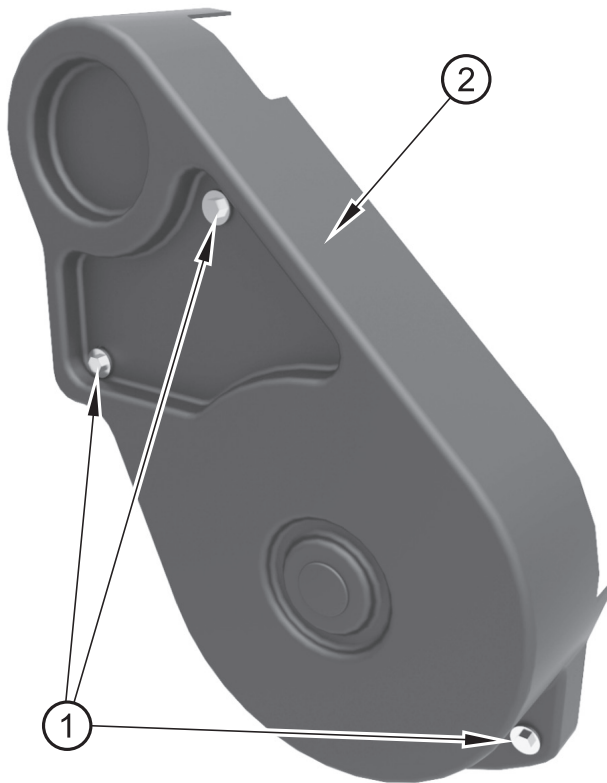

Figure 14
1. Undo the bolts (figure 14 item 1) and remove the guard (item 2).
3. Inspect the belt. Ensure that the belt tensioner is securely installed. Visually inspect the belt tensioner (item 1) for damage. Check that the pulley on the tensioner rotates freely and that the bearing is not loose. If necessary, replace damaged components.